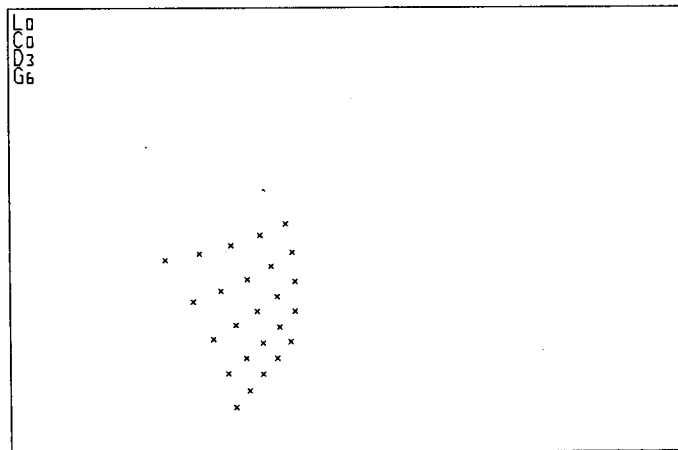

Figure 5
Step 7: Create remaining nodes for first blade using REGION (Figure 5)